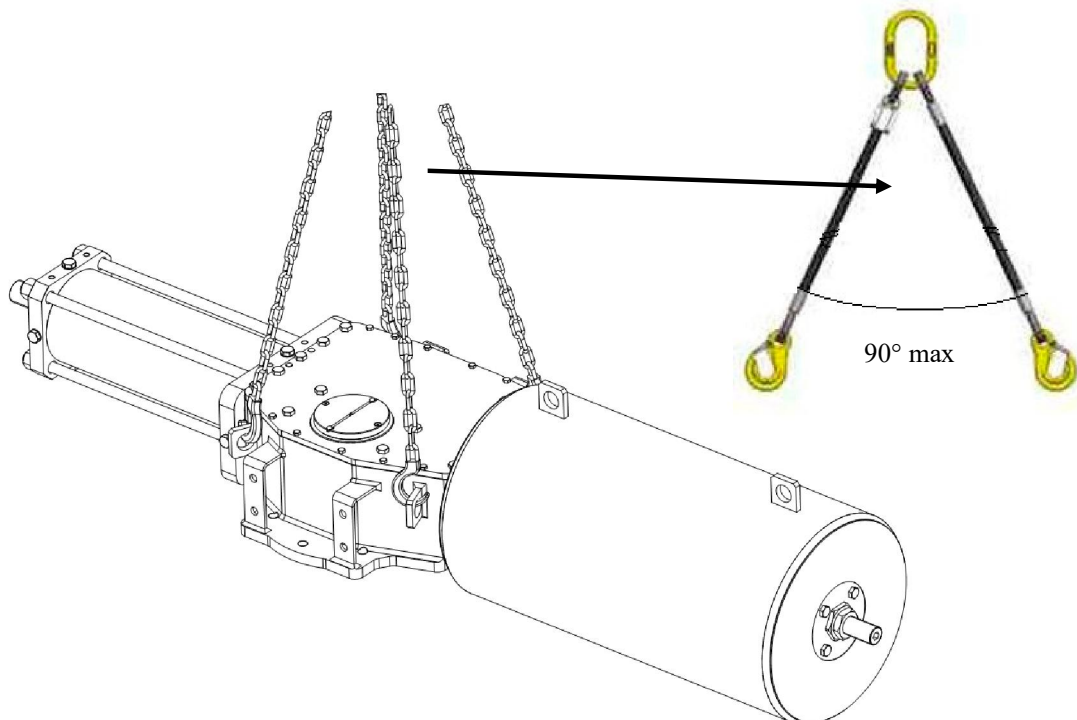

Fig. 2 – Lifting points for RTQHS actuator series
<p>Warning</p> 	<p>The lifting and handling must be made by qualified staff and in compliance with the laws and provisions in force.</p> <p>Lift the actuator as shown in Figure 2 taking care that the maximum opening angle between the chains remains below 90°.</p> <p>The lifting points are appropriate for the lifting of the actuator alone and not for the valve + actuator assembly.</p> <p>Avoid that during the handling, the actuator passes above the staff.</p> <p>The actuator should be handled with appropriate lifting means considering the mass of actuator. The mass is printed on the label of the actuator.</p> <p>The mass is also reported on the delivery bill and on overall-dimensions drawings furnished with the documents accompanying the actuator.</p> <p>In case the information regarding the weight is missing consult www.stiactuation.com for base actuators or ask this information at info@stistrumentazione.com</p>
- Conditions in which the machinery meets the requirement of stability during use, transportation, assembly, dismantling when out of service, testing or foreseeable breakdowns, are shown in Fig.2.